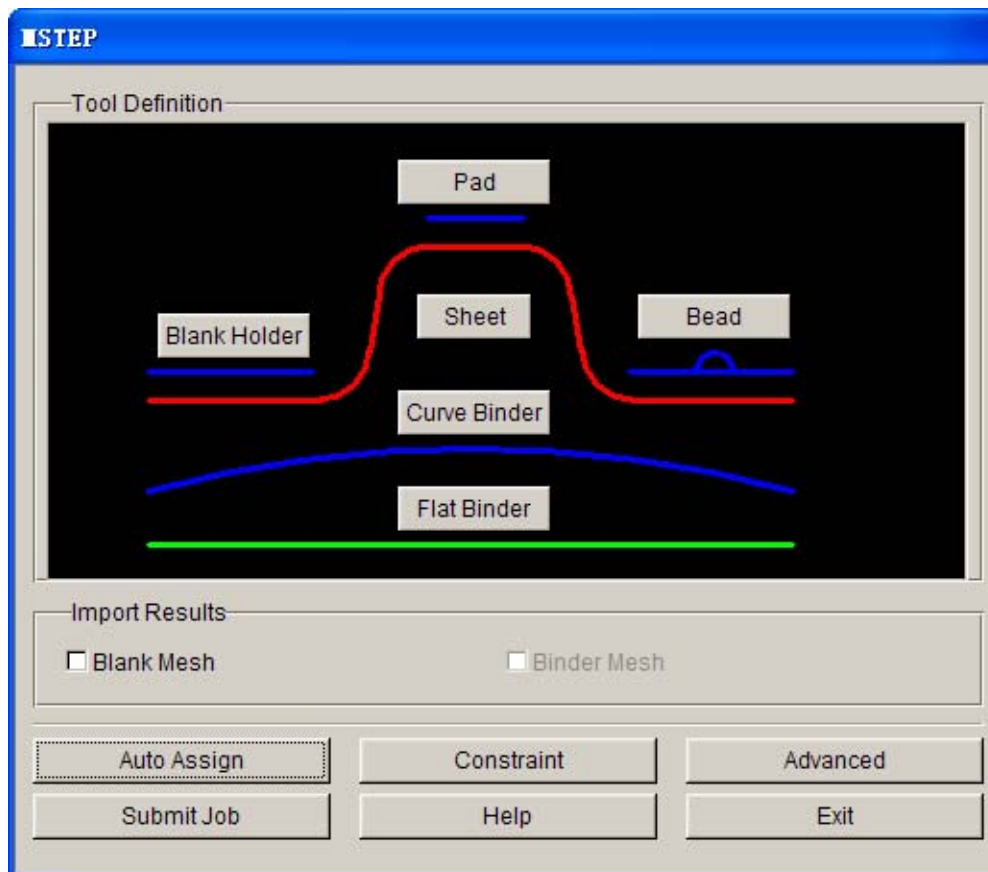

Figure 1.19: MSTEP GUI
2. The figure 1.19 is the sketch figure of MSTEP module. The setup setting is very simple. It is only required to assign corresponding part to tool and select solving mode to execute simulation.